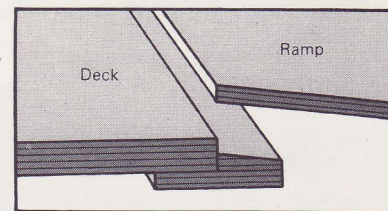

Fig. 3. Packing strip for ramp joint.
Make packing (8) by gluing $6\frac{1}{4} \times \frac{1}{2} \times \frac{1}{8}$ in. plywood strip to $6\frac{1}{4} \times 1 \times \frac{1}{8}$ in. plywood strip. Glue packing to underside of lower deck at edge between central and low walls. Make similar 3 in. long packing (9) for upper deck and trim thick part to slope of ramp (fig. 3). Glue packing to underside of upper deck.